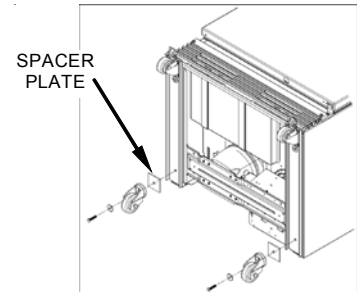

Figure 7
- Next, insert that same caster bolt through the hole on the metal spacer plate and then thru the rear hole of the caster rail (see Fig. 7).